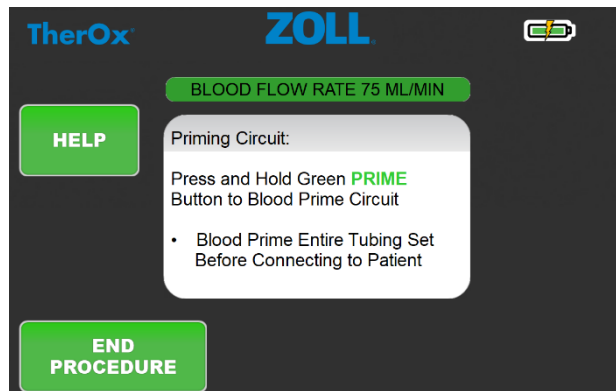

Figure 15. Prompt to Press and Hold PRIME Button
2. As the console pump begins to operate, a message appears on the screen indicating that the circuit is priming (see **Figure 15**). The blood pump will slow down to facilitate priming the return line.